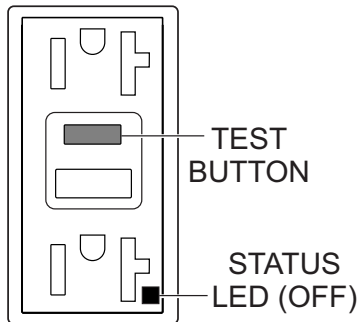

Figure 71. GFCI Receptacle (OFF)
4. Press the **TEST button** (Figure 71) on the GFCI receptacle and verify that the status LED turns **OFF**.